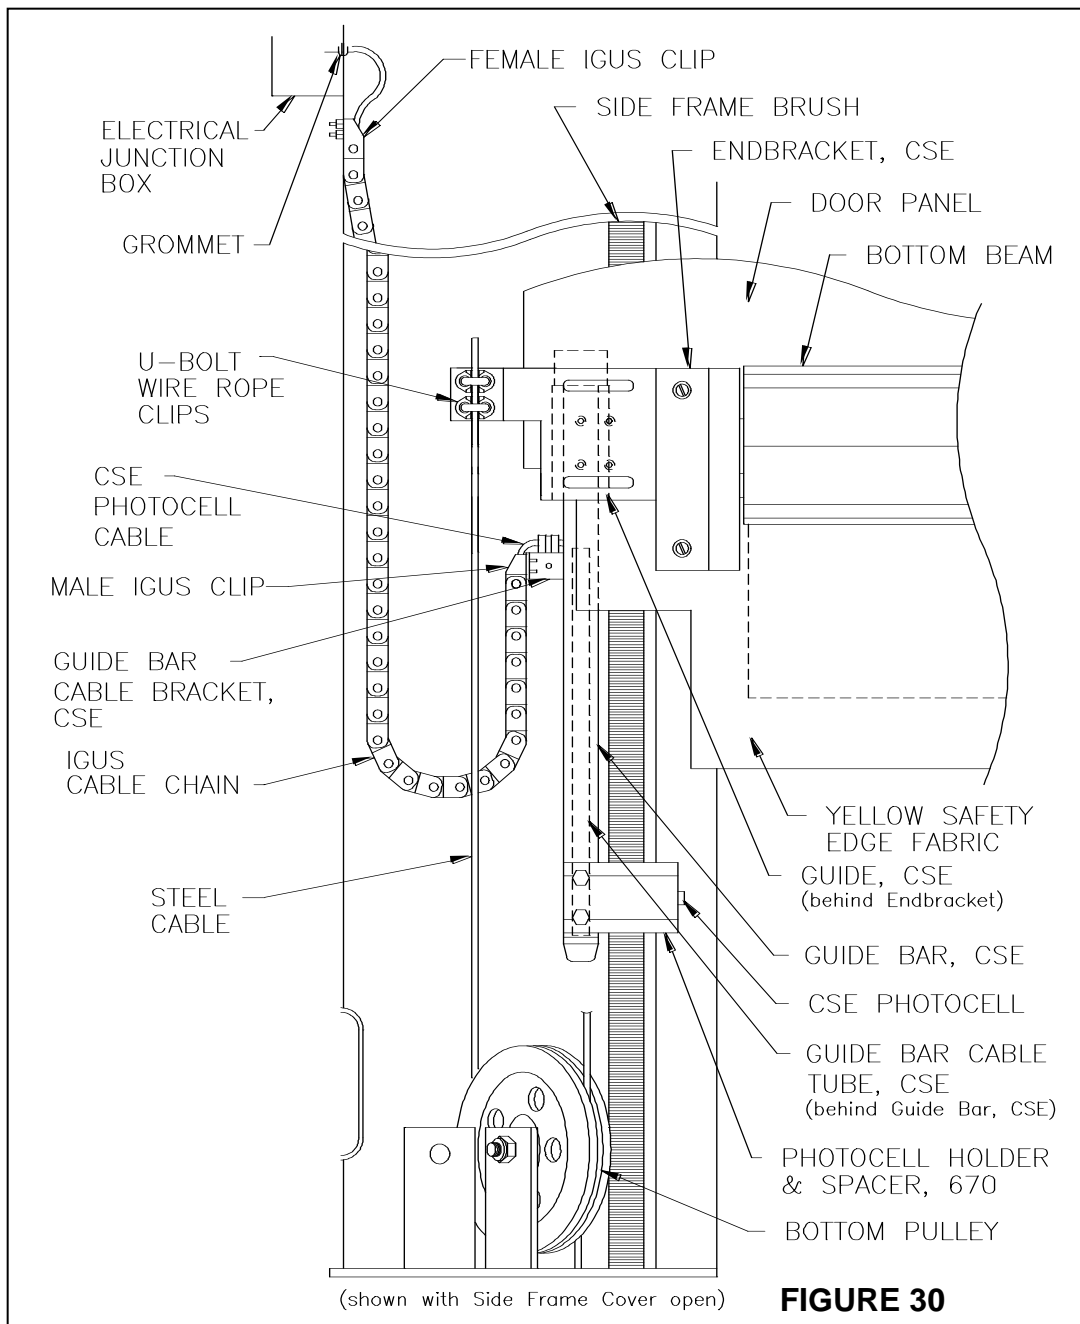

FIGURE 30
REFERENCE FIGURE 30 WHILE PERFORMING THIS PROCEDURE
3. Remove the rubber stops from the top end of each guide bar. Slide the guide bars up into the white polyethylene guides located on each end bracket. The photocells will be facing into the door opening, towards each other. See **Figure 30** for proper orientation.